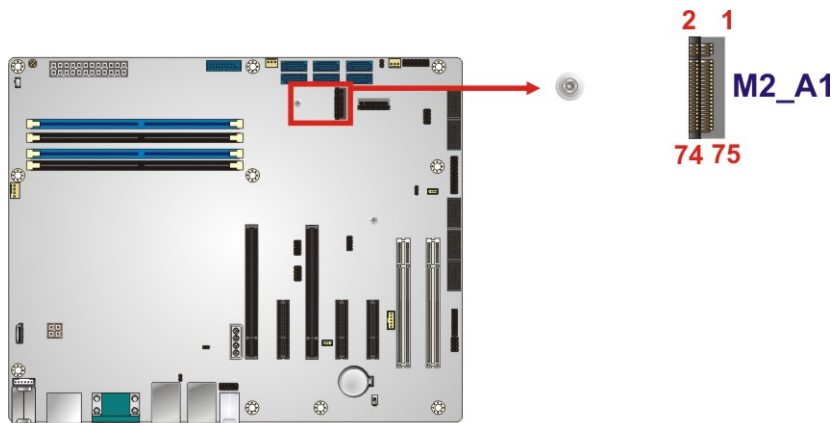

Figure 3-18: M.2 2230 Slot Location
- CN Location:** See **Figure 3-18**